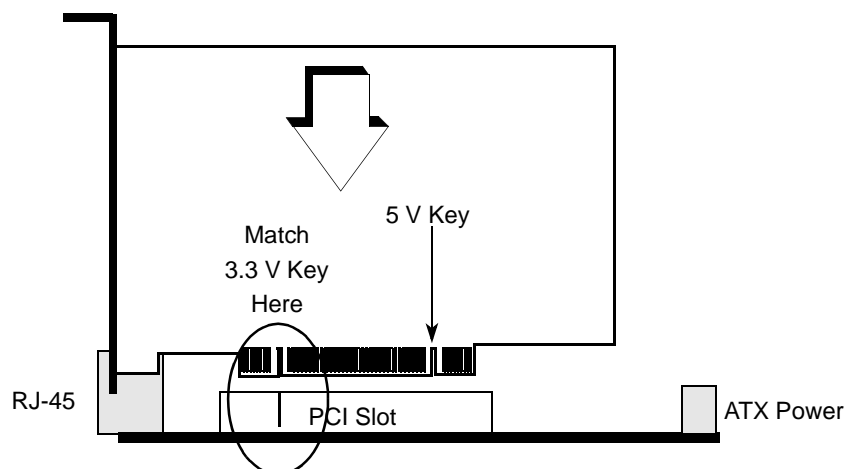

Figure 17. 3.3 V Key on a Typical 3.3 V PCI Card
3.3 V PCI cards can be identified by the key position on the PCI card, as shown in Figure 17.